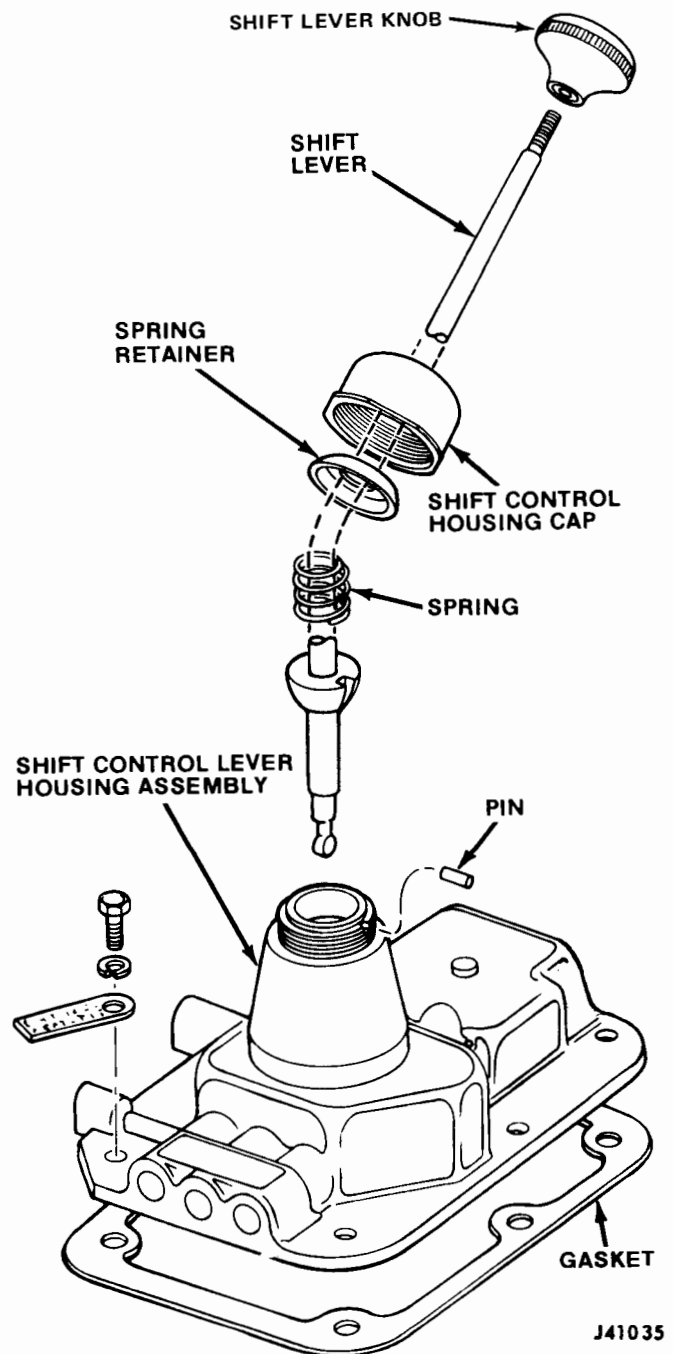

Fig. 6-2 Shift Control Lever Housing Assembly Removal—4-Speed Transmission
- (4) On all models with T-18A 4-speed or CJ models with T-150 3-speed, remove shift control housing cap, spring retainer, spring, shift lever, and pin (fig. 6-2).
- (5) On models with T-18A 4-speed, remove transfer case shift lever.
- (6) Raise vehicle.
- (7) Index mark propeller shafts before removal for proper alignment at installation.